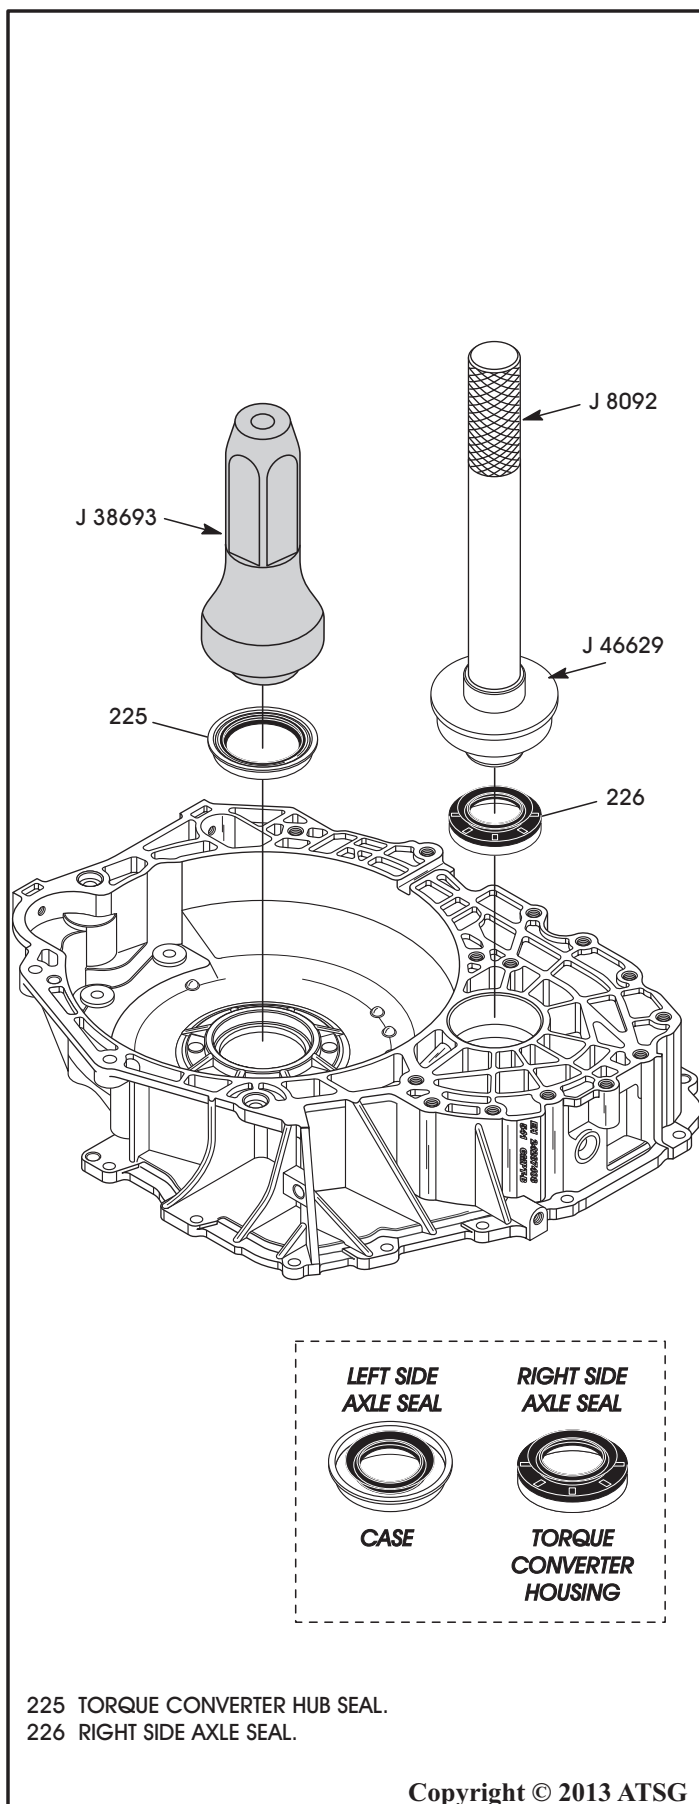

Figure 113
1. Install new converter hub seal into the converter housing, as shown in Figure 113, using J-38693 seal driver.
2. Install the right side axle seal using J-46629 seal driver, as shown in Figure 113.
**Note:** The right and left side axle seals are different design (See Figure 113).